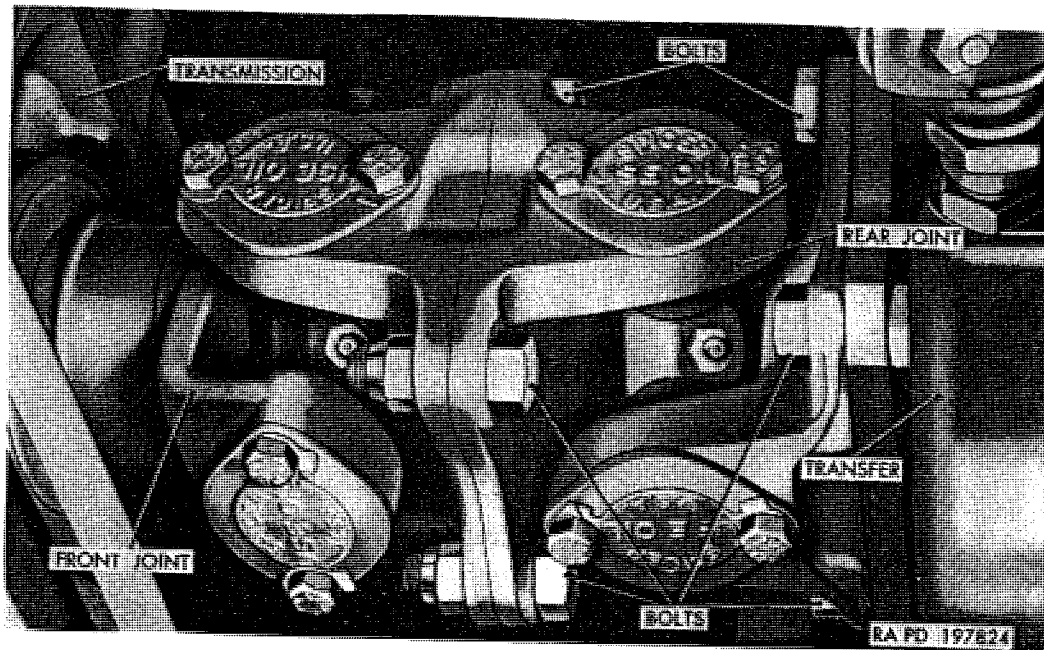

Figure 240. Transmission-to-transfer propeller shaft installed.
c. Transmission-to-Transfer Propeller Shaft (fig. 240). Power from transmission to transfer is through two universal joint assemblies which are bolted together, thus eliminating shaft usually used. Slip joint between transmission and transfer is through splined yoke which engages transmission output shaft.
c. Transmission-to-Transfer Propeller Shaft Removal. Remove four bolts and nuts attaching two universal joints (fig. 240) together; also remove four bolts and nuts attaching rear universal joint flange to transfer flange. Remove rear universal joint. Slide front universal joint toward rear and off transmission output shaft.
c. Transmission-to-Transfer Propeller Shaft Installation (fig. 240). Apply automotive and artillery grease (GAA) to sleeve yoke sleeve; then slide sleeve yoke over transmission output shaft, being careful that transmission rear seal is not damaged during installation. Move joint toward transmission to provide sufficient space to install rear universal joint. Locate rear joint between front joint and transfer flange with lubrication fittings in alignment; then install four $\frac{1}{2}$ -20 x $1\frac{3}{8}$ bolts and $\frac{1}{2}$ -20 nuts attaching two universal joints together. Install four $\frac{1}{2}$ -20 x $1\frac{3}{8}$ bolts and $\frac{1}{2}$ -20 nuts attaching rear joint to transfer flange. Tighten the eight nuts to 48 to 64 pound-feet torque.